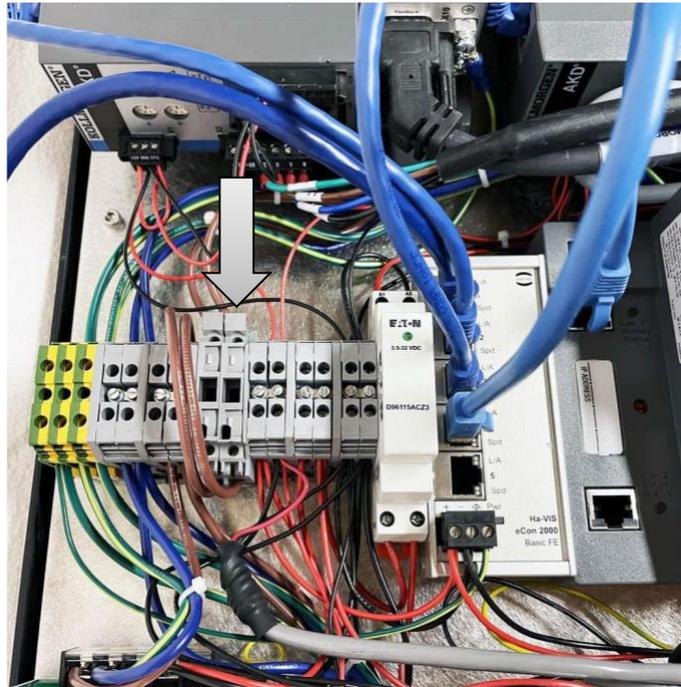

Figure 29 – Rinse Module – Linear Fuse
3. Remove the eight 8-32 flat head cap screws (*Figure 29*) from the top, front, and sides of the Rinse Module from the top row of screws, above the ones you have already removed. Then remove the two 8-32 flat head cap screws from the rear of the unit.